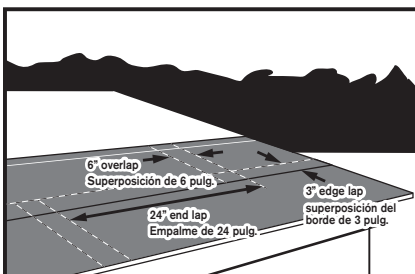

Figure 5 Figura 5
(G) Repeat process as needed, overlapping additional courses 3 inches (7.6cm) on the selvage edge. The laps must be firmly hand rolled to insure a watertight bond. Overlap the end lap where the 2 rolls meet by 6 inches (15.2cm) and seal with mastic. Stagger end laps a minimum of 24" from those in previous courses. (See Figure 5)